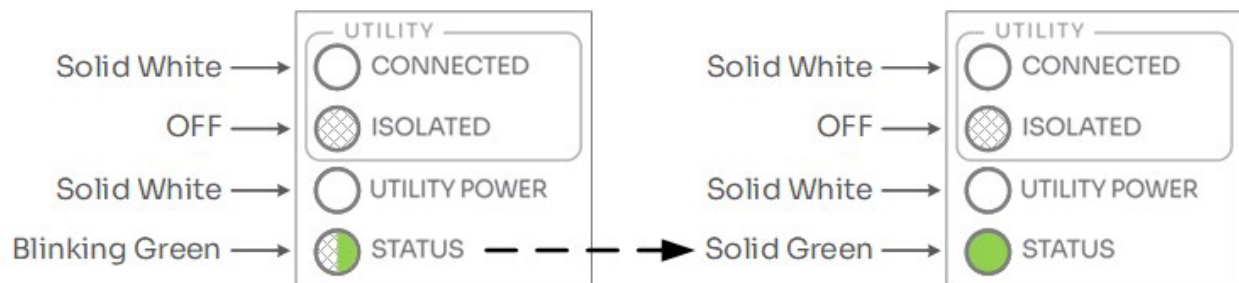

Figure 27. Normal Startup LED Status.
26. Check the LED status on the Connection Module on the opposite end from the Analog Communications Cable. Confirm the 'Utility Connected' white light is on, and the 'Status' LED is solid green after blinking for a few minutes. If the IslandDER MSA is not connected to the 3rd Party DER system, the 'Status' LED may be blinking red. See Figure 27.